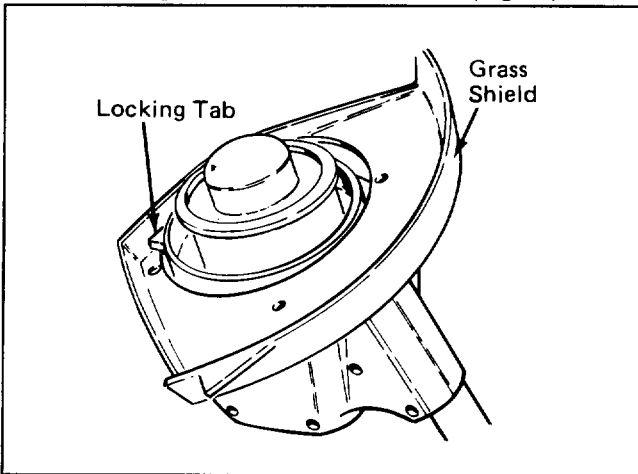

Figure 5
2. Tilt grass shield so that front side of shield is under locking tab. Slide shield back (Fig. 5).